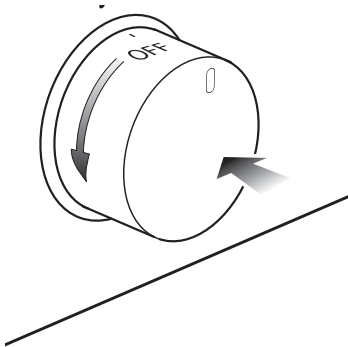

Fig. 2.2
1. Push and turn the dial in a counter-clockwise direction up to the **HI** position (maximum rate), push in and hold the dial until the flame has been lit (fig. 2.2). The sparks produced by the lighter situated inside the relative burner will light the flame.
2. Push and turn the dial in a counter-clockwise direction up to the **HI** position (maximum rate), push in and hold the dial until the flame has been lit (fig. 2.2).